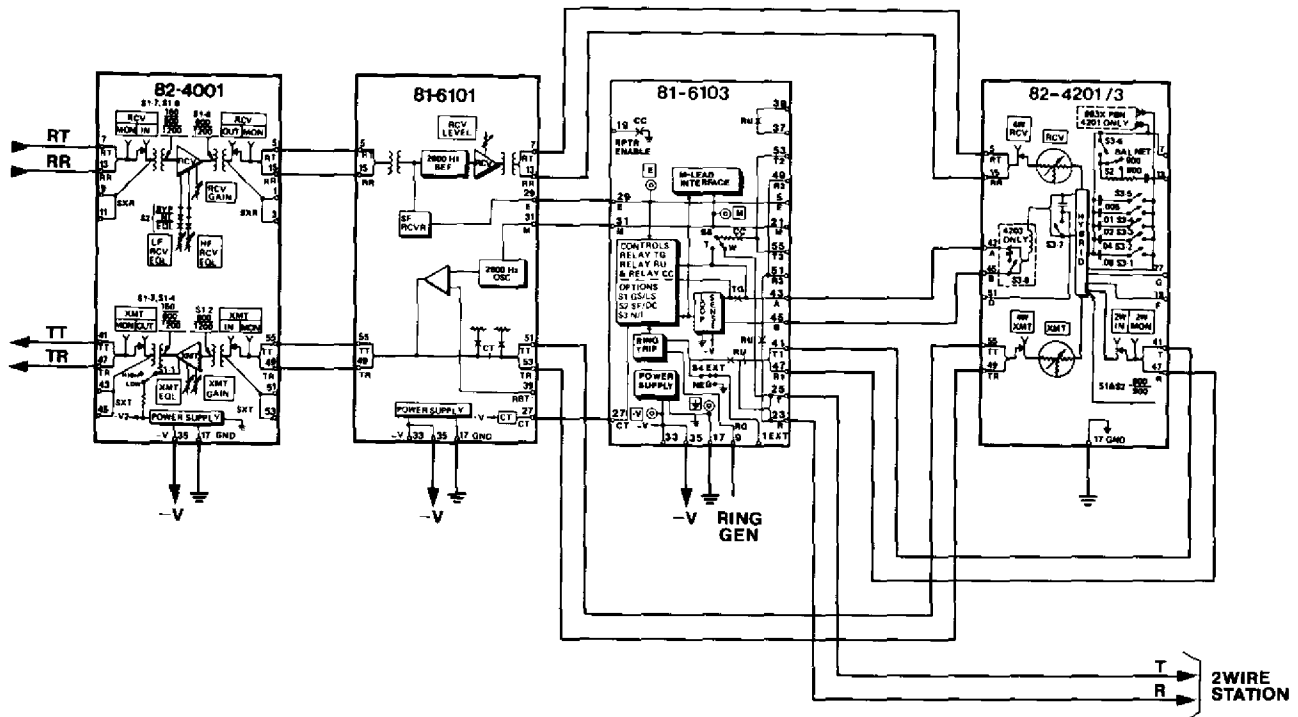

figure 5. Required wiring connections for typical SF application of 6103
3.03 In applications where the 6103 module is to be installed in a 260 or 261 Assembly, no external connections to the module itself need be made because all internal connections in these assemblies are factory-prewired. For reference purposes, however, all required connections in a typical 260 or 261-System signaling and terminating circuit (in this illustration, an SF circuit) are shown in figure 5.